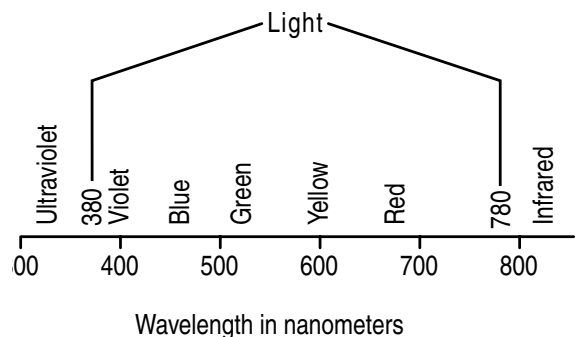

Figure 6-47. The light spectrum
Visible light is a composite of wavelengths from violet to red (figure 6-47). Light with wavelengths below 400 nanometers (nm) is called ultraviolet (UV) and can be harmful to plants in large quantities. Glass screens out most UV light and all light below a wavelength of 325 nm.